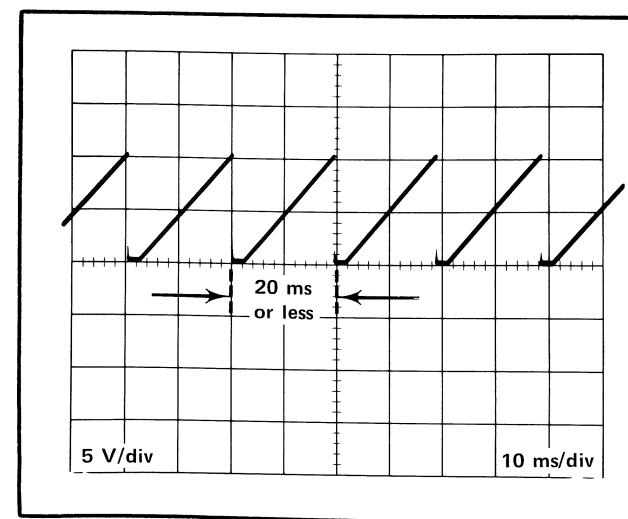

Fig. 5-3. Minimum sweep period check. The VARIABLE OR EXT ATTEN control is fully clockwise (Step 8 first part).
- d. CHECK that the repetitive period is 20 ms or less (see Fig. 5-3).